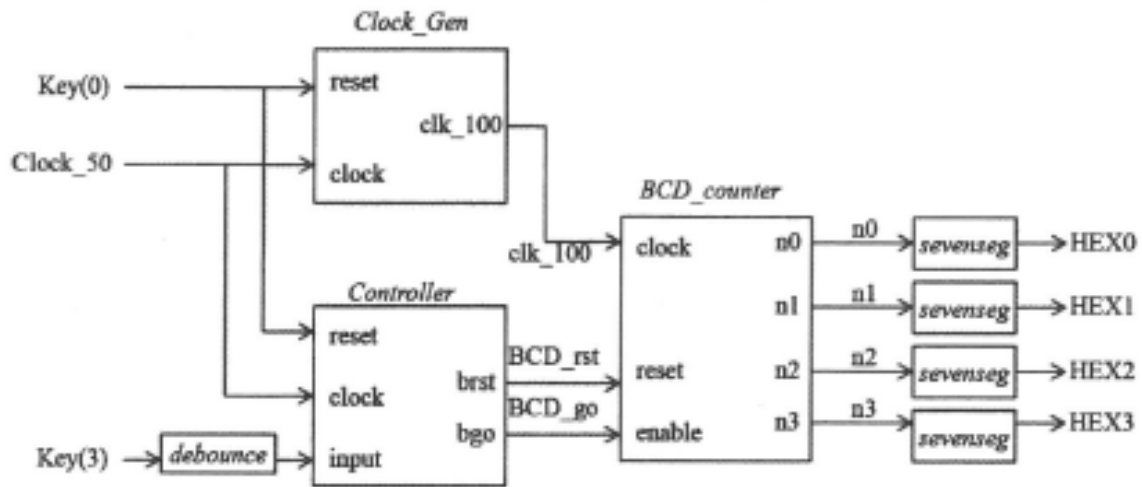

Fig. 1: Functional block diagram of the stopwatch design
In this design, the user operates the stopwatch with just one pushbutton: KEY(3 ). After initialization, the stopwatch display should read "0000". To initiate the stopwatch, the user will press and hold the pushbutton. Once the pushbutton is released, the counting stops and the stopwatch stays at its final time count. After that, the user may clear the display by pressing the pushbutton and releasing it. The stopwatch essentially goes back to its initial state after the display is cleared. KEY(0) is used to emulate the power-up reset. It is **easy** to get confuse when we are using other pushbutton as a user input device. Nevertheless, KEY(0) is not part of the input device and does not involve in circuit behavior. From the original design shown in Figure 1, we see that the main function of the "controller" is to produce two control signals for the "BCD\_counter". The signal "brst" will be used by the "BCD\_counter" as its "reset" signal. The signal "bgo" will be used by the "BCD\_counter" as its counting enable signal. We may summarize the functionalities of these control signals as in Table 1.